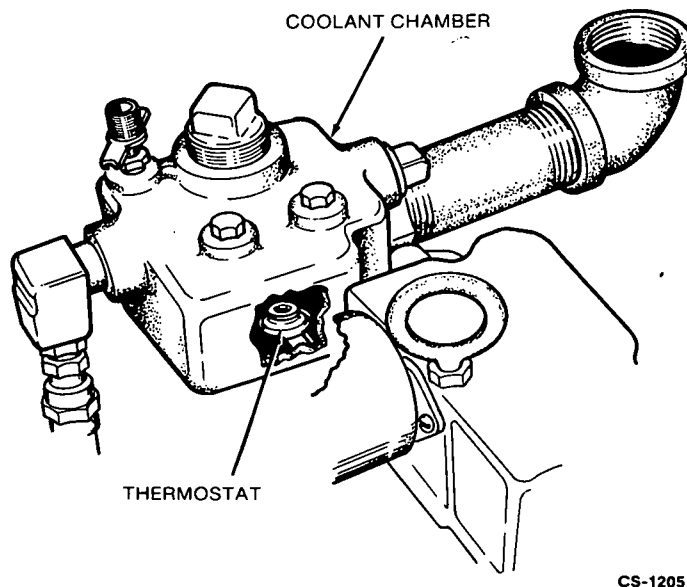

FIGURE 11. THERMOSTAT LOCATION
A thermostat is located in the cylinder head. See Figure 11. Replace the thermostat if damaged by corrosion or other causes. If the thermostat is replaced, always install a new thermostat gasket.
1. Remove thermostat from cylinder head. (Figure 11).